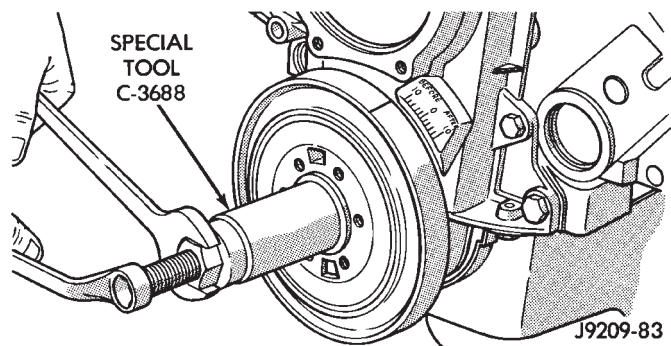

Fig. 26 Installing Vibration Damper
(1) Position the vibration damper onto the crankshaft.
(2) Place installing tool, part of Puller Tool Set C-3688 in position and press the vibration damper onto the crankshaft (Fig. 26).